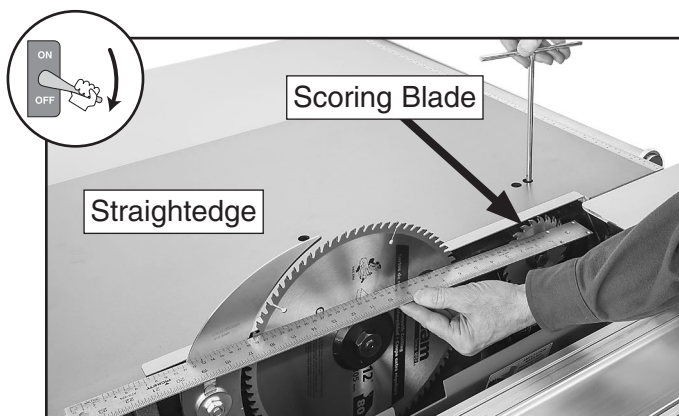

Figure 90. Adjusting horizontal position of scoring blade.
- Insert T-handle wrench into right hole shown in **Figure 90**, engaging it with adjustment bolt under table, then rotate wrench to align bodies of blades.